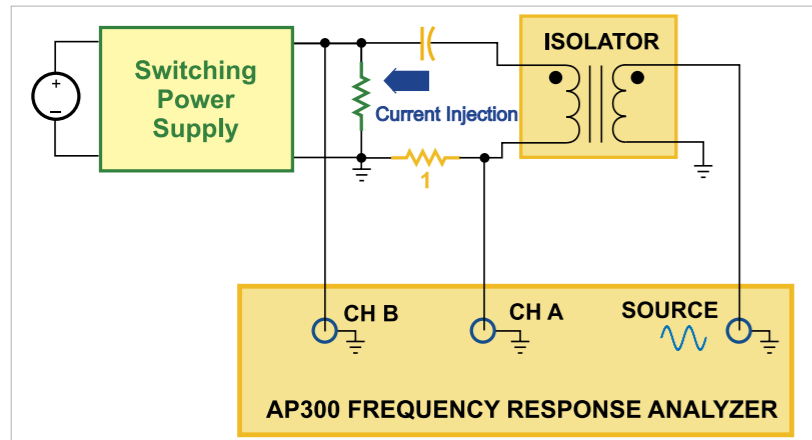

Figure 3: Practical Test Setup for Injecting Current and Measuring Impedance.
**Figure 3** shows how this output impedance measurement is implemented practically using a frequency response analyzer. No special injection fixtures are needed [2], and as will be shown later, it is important to have flexibility on where measurements are made if you want to get good results.